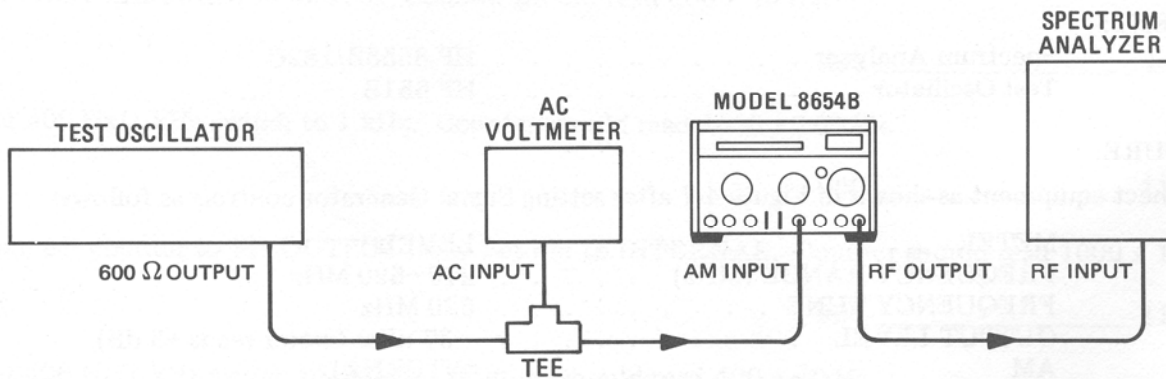

Figure 4-8. AM Sensitivity and Indicated Accuracy Test Setup
1. Connect equipment as shown in Figure 4-8 after setting Signal Generator controls as follows: